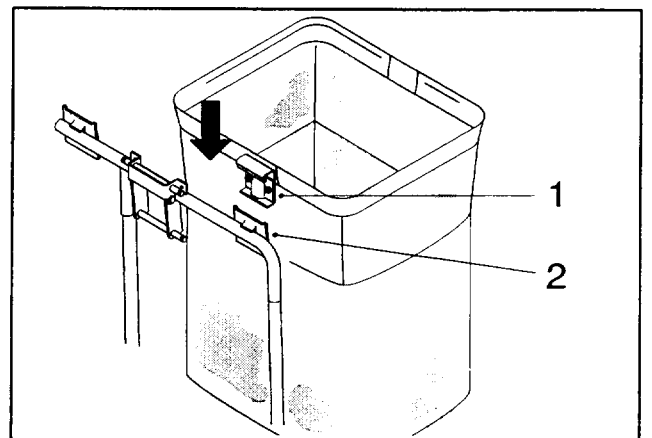

Figure 14
4. Slide the bag frame hook onto the retaining bracket (Fig. 14).